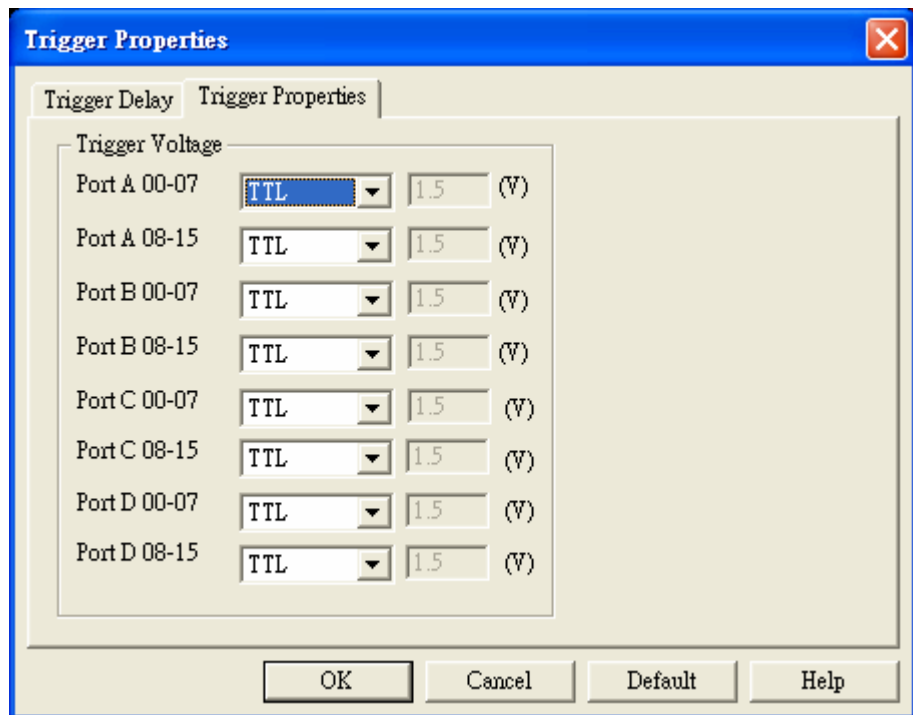

Fig 3-4 – Trigger Properties
Step 1. Click  icon or Click Properties from the Trigger on the Menu Bar, select Trigger Properties. The dialogue will appear as shown in Fig 3-4.